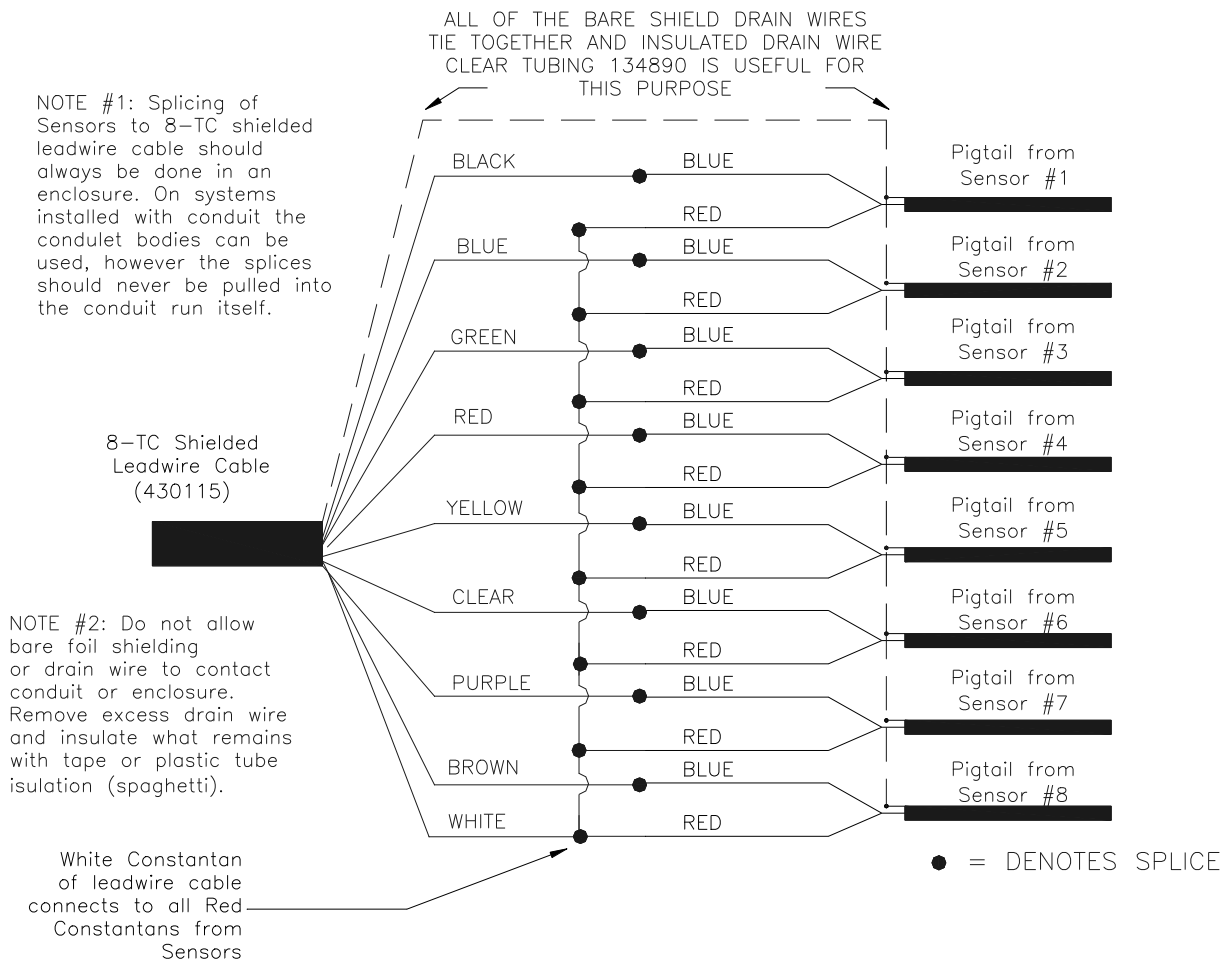

Figure 14. SPLICING
6.5.1. Wire-To-Wire Splicing Wire-to-wire splicing should be done inside a splice box or in a conduit fitting. A splicing enclosure will provide mechanical protection from collateral damage related to moving machinery, or vigorous housekeeping. The splice is more vulnerable to environmental effects and physical damage than the remainder of the wire run, which is still in its jacket. A splice enclosure also keeps them free of dirt and moisture. Splicing enclosures should be placed in an easily accessible location and has a proper dusttight cover. See Figure 14 & 15.
6.5.3.7. Pair up the wires color to color and twist them together as in Figure 14. If more than 3 wires are to be spliced under the same crimp, you must strip off the insulation before twisting.